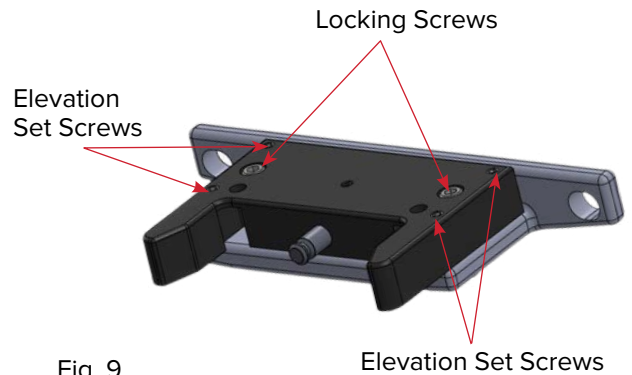

Fig. 9
- a. Begin by adjusting the height of the Foot Latch Mounting Block on the existing CT, by loosening the Locking Screws (2) ¼-20 (Fig. 9).